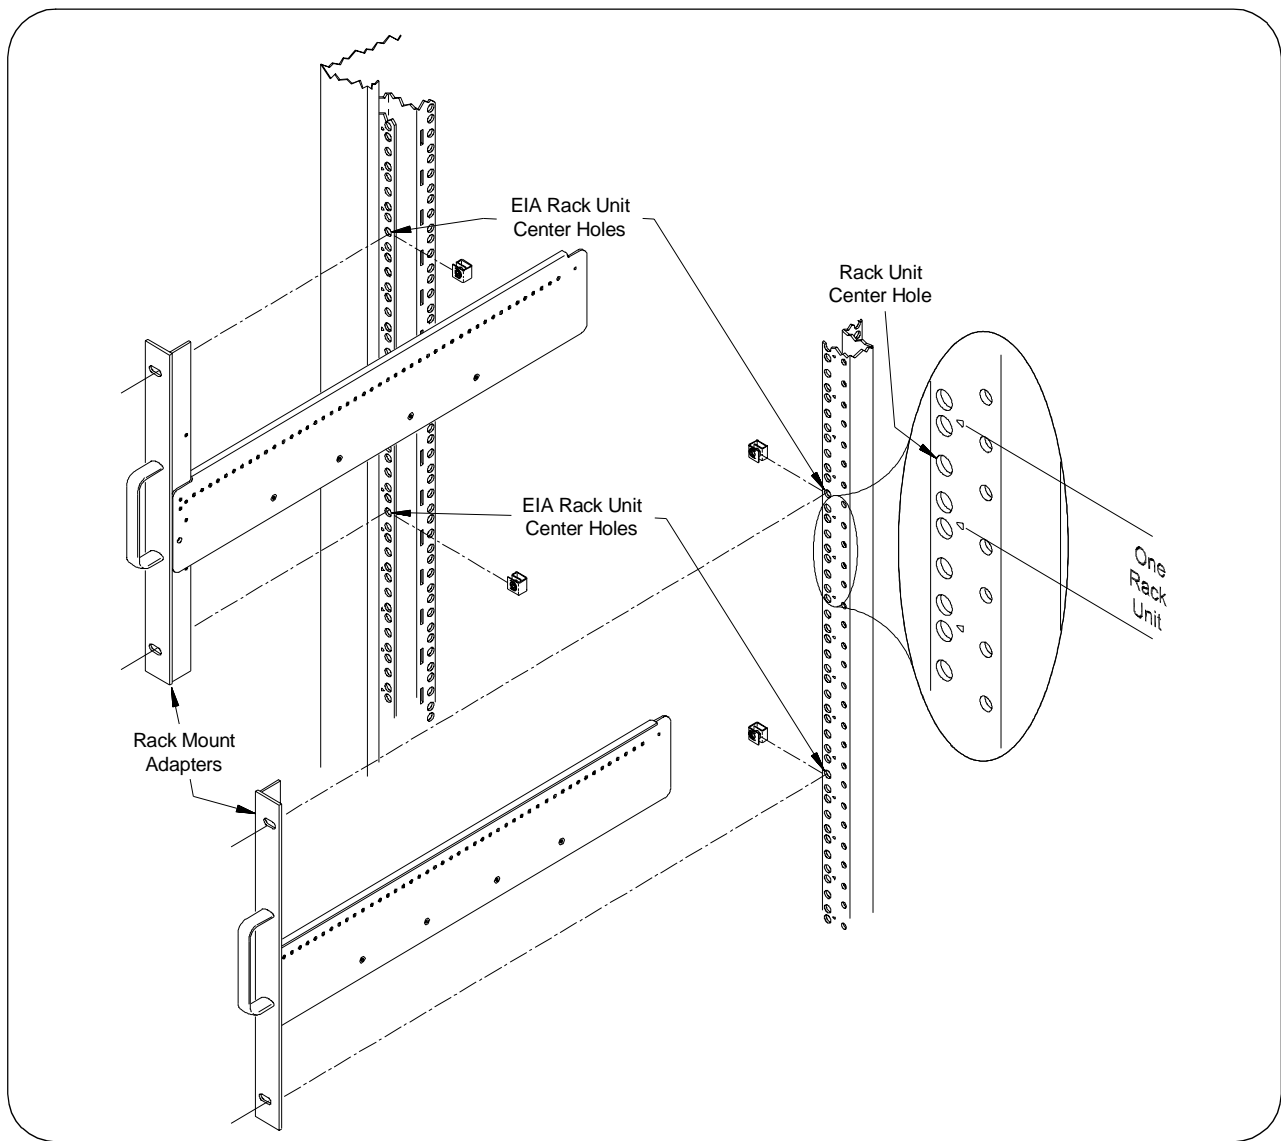

Figure 6 . Positioning the Mainframe in the Rack.
2. Using the rack mount adapters as templates, position the adapters on the rack's vertical columns where the mainframe is to be positioned. Be sure to align the adapter flange holes over EIA unit center holes on the vertical columns (Figure 6).